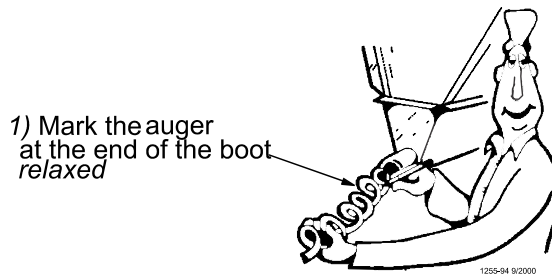

Figure 38. Measure the Auger from the relaxed position
10. Pull the auger at the boot end until it begins stretching. Then let it relax. In the *relaxed* position, mark the auger at the end of the boot. See **Figure 38**.